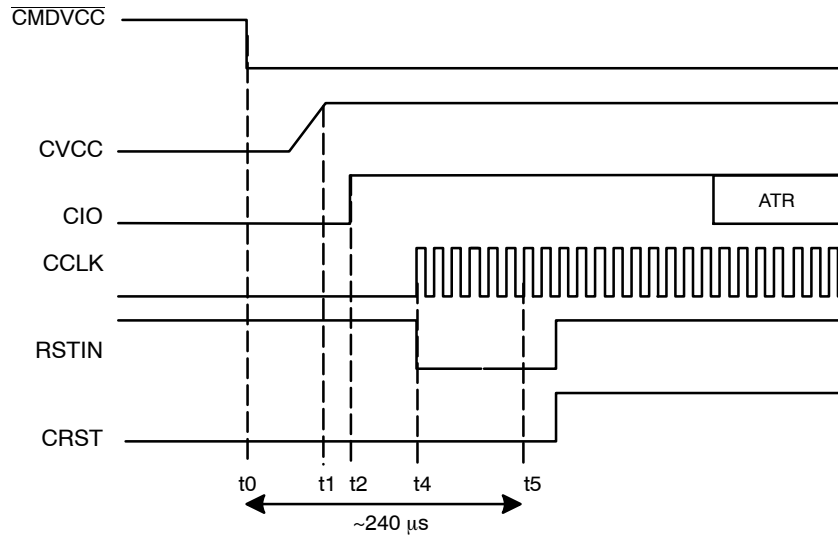

Figure 4. Activation Sequence – RSTIN Mode (RSTIN Starting High)
The clock can also be applied to the card using a **RSTIN mode** allowing controlling the clock starting by setting RSTIN Low (Figure 4). Before running the activation sequence, that is before setting Low \overline{CMDVCC} RSTIN is set High. The following sequence is applied:
- Between t_2 (Figure 4) and $t_5 = 240\ \mu\text{s}$, RSTIN is reset to LOW and CCLK will start precisely at this moment allowing a precise count of clock cycles before toggling CRST Low to High for ATR (Answer To Reset) request.